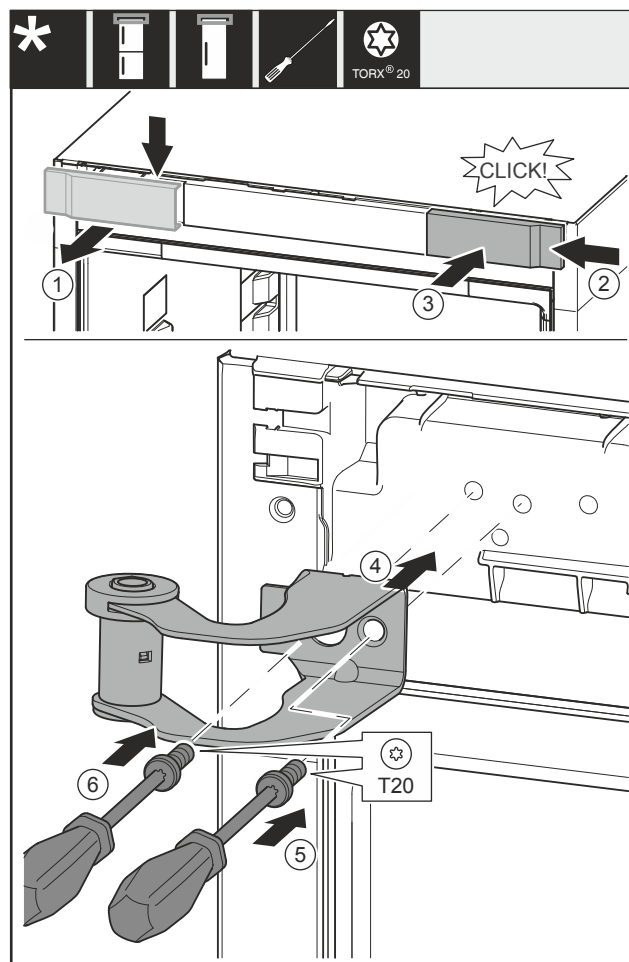

Fig. 34
- Remove the cover Fig. 34 (1) from above towards the front.
- Turn the cover Fig. 34 (2) by 180° and attach to the other side from the right.
- Engage the cover Fig. 34 (3).
- Place the top swap bearing block Fig. 34 (4).
- Screw the screw Fig. 34 (5) tight.
- Screw the screw Fig. 34 (6) tight.